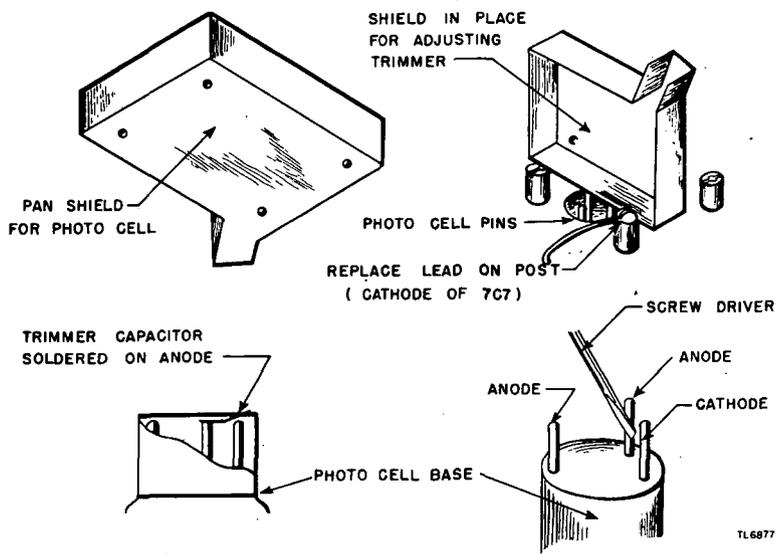
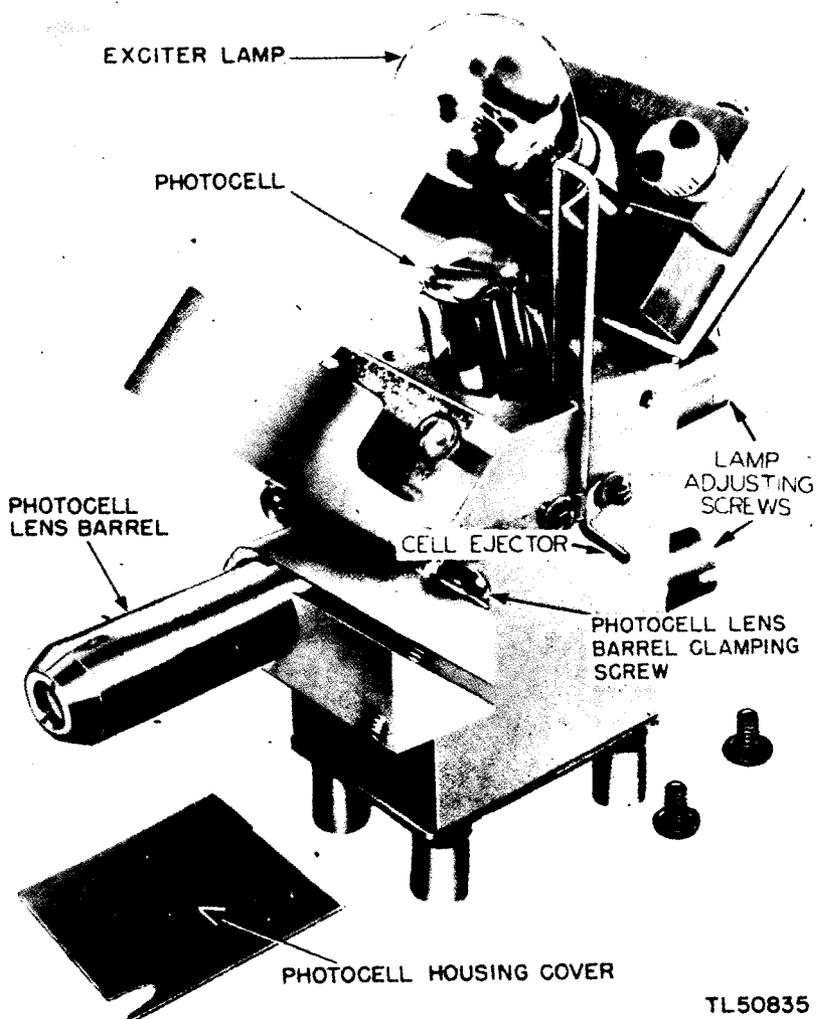

Figure 26. Balancing photocell of Facsimile Transceiver FX-1.
Figure 36. Exciter lamp assembly of Facsimile Transceiver FX-1-B.
*c.* On *Facsimile Transceiver FX-1*, take the pan from the base of the photocell and reset it to act as a shield (fig. 26). Connect the ground wire to the binding post, and do the following:
(1) With a non-inductive aligning tool, vary the spacing of the copper strip capacitor C8 to the anode. Watch the db meter and adjust the capacitor for minimum meter reading. After each movement of the capacitor strip, re-balance the dip (minimum reading) with the CONTRAST control. A minimum can be obtained by a proper adjustment of capacitor C8 with the scanning beam on white. A compromise usually is better, however, so that a proper contrast also will result on positive transmission. To get this contrast, check the balance with the scanning beam on black of the phasing ring.
*b. Facsimile Transceiver FX-1-B.* Remove the top cover of the photocell housing and lift up on the ejector wire on the left-hand side of the photocell housing. This raises the photocell out of its socket (fig. 36).
- (1) Take the pan from the bottom and unsolder wires from the pin of the cell. Note which wire goes to which pin, so that they can be replaced properly.
- (2) Remove the shield ring from the base of the cell by taking out the three screws to the flange. Then remove the cell, noting the position of the sponge-rubber rings. Thoroughly wash and dry hands before handling the new cell, or the old cell, if it is to be put back. **NEVER HANDLE THE CELL, PARTICULARLY AROUND THE BASE, WITH PERSPIRING HANDS.**
- (3) Wipe off the cell to be installed with a little cotton moistened with alcohol. Put the rubber rings on the cell and pack them into place as the cell is replaced.
- (4) Line up the front of the cell with the scanning beam. Replace the shield ring. Connect the wires to the pins.
- (5) Determine which anode requires the trimming capacitor.
**NOTE:** To do this, temporarily mount the shield pin as shown in figure 26. Turn on the power, place the selector switch to SET RANGE, set the GAIN control to 100, and set the CONTRAST control to 50. Be sure the scanning beam is on black of the phasing ring. Take a small screwdriver with an insulated handle and place the blade on one anode pin and point it toward the cathode. Repeat this test on the other anode. A drop in level on the meter reading indicates the anode which needs the trimmer capacitor.
(6) Solder the small copper capacitor plate directly to the top of the proper anode. Balance the cell as described above (par. 42).
*a.* To remove a defective exciter lamp in *Facsimile Transceivers FX-1-A and FX-1-B*, push the bulb down, turn it to the left, and pull it from the socket. Replace with a new bulb. Turn the CONTRAST control for a minimum meter reading on black. Place a sheet of white paper on the drum. Put a screwdriver in the slots of each position adjustment (fig. 36). Turn for maximum meter